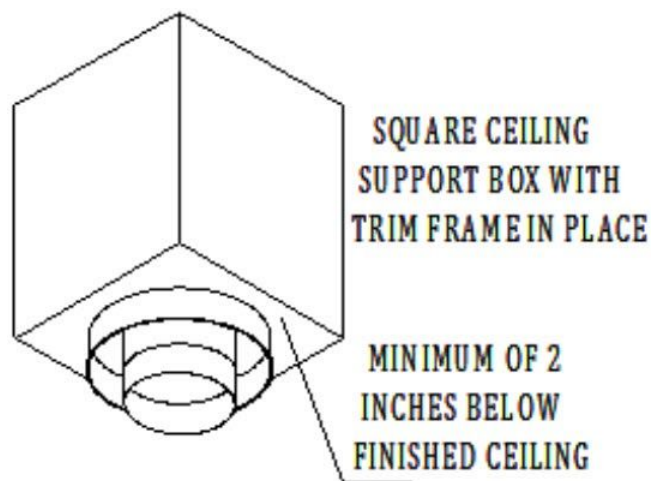

Fig. 5
3. **Flat Ceiling Support Box Installation:** For a flat ceiling installation use the Square Ceiling Support Box and Trim. The bottom of the Square Ceiling Support Box must extend at least 2 inches below the finished ceiling (measured to the bottom of the box not including the round adapter section) (Fig 5).
Vaulted Ceiling Support Box Installation: For a vaulted ceiling installation use the 24" or 36" Square Ceiling Support Box and Trim. The bottom of the Support Box must be a minimum of 2 inches below the finished ceiling at the lowest side of the penetration (measured to the bottom of the box not including the round adapter section) (Fig 5).
Installation: For a cathedral ceiling installation use the 24" or 36" Square Ceiling Support Box and Trim. The bottom of the Support Box must be a minimum of 2 inches below the finished ceiling at the lowest side of the penetration (measured to the bottom of the box not including the round adapter section) (Fig 5).